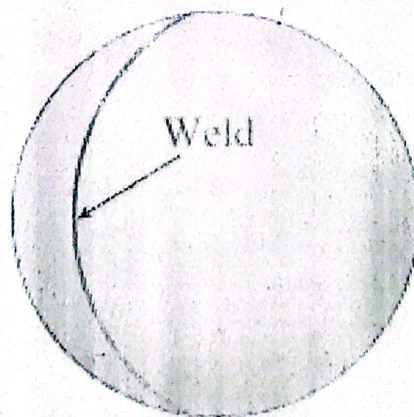

Fig. Q. 4
4. A compressed-air tank having an inner diameter of 5.5 m and a wall thickness of 45 mm is formed by welding two steel hemispheres as shown in Fig. Q. 4